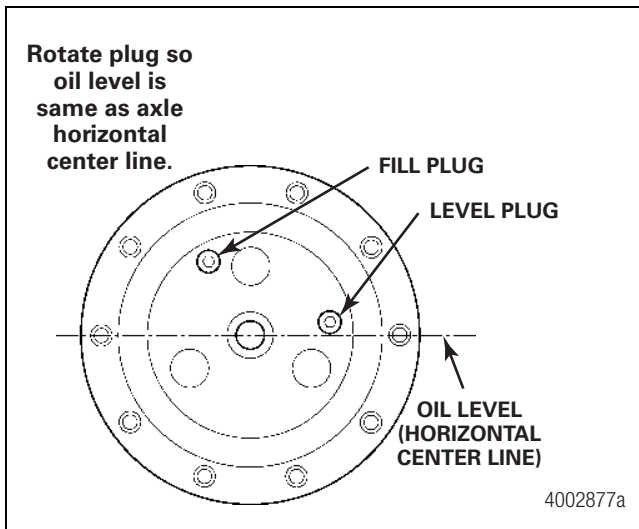

Figure 2.34
- **Original design wheel ends:** Rotate the wheel ends so the fill plug gives a level the same as the axle horizontal center line. Figure 2.34.